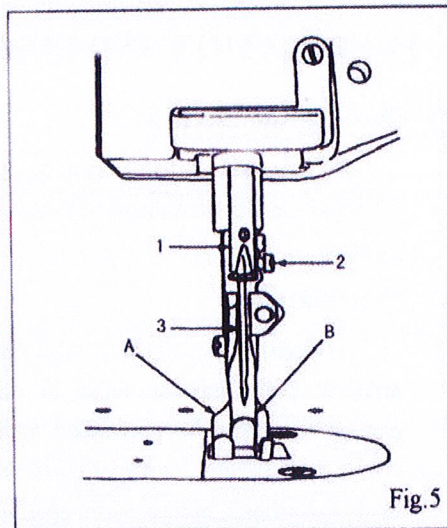

Fig.5
4. REPLACE NEEDLES (Fig.5)
2) When altering the lift of the lifting presser foot (A Fig.5) unequally against that of the vibrating presser foot (B Fig.5) or vice versa, see the instructions "ADJUSTING THE HEIGHT OF THE PRESSER FEET"